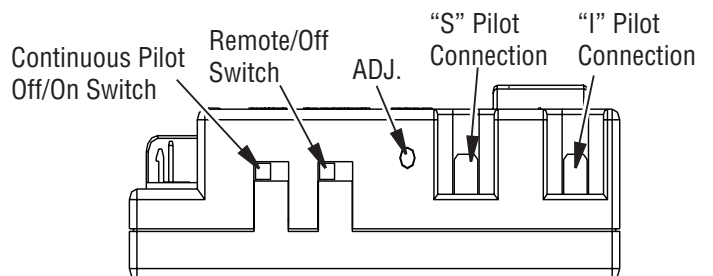

Figure 26 - Gas Module Right Side
1. There is a switch located on the right side of the module that reads CONTINUOUS PILOT ON/OFF. This switch selects the pilot's mode of operation (**Figure 26**).